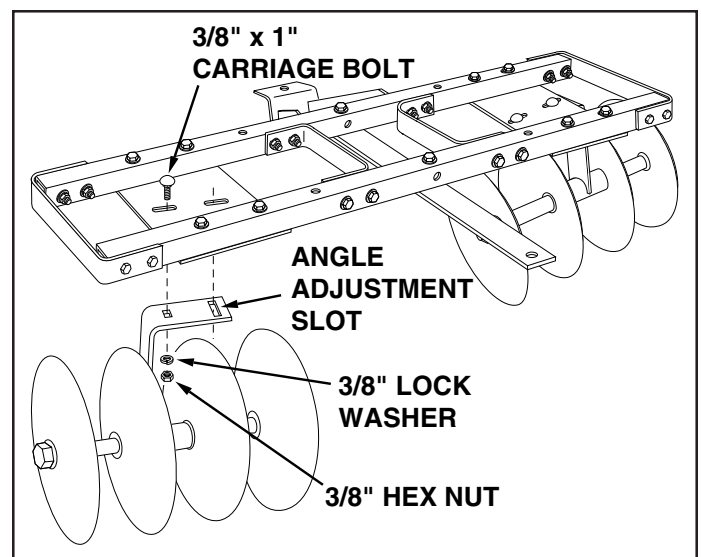

FIGURE 9
10. Assemble the disk assemblies to the disk mount plates using four 3/8" x 1" carriage bolts, 3/8" lock washers and 3/8" hex nuts. With the inside disks spaced 8" to 10" apart, swivel the disk assemblies until the angle adjustment slot is centered on the carriage bolt. This positions the disks at a 15 degree angle. **Tighten all bolts.** See figure 9.
1. Remove the stabilizer bolts from the tractor's sleeve hitch as shown in figure 9 to allow side to side motion of the disk cultivator.